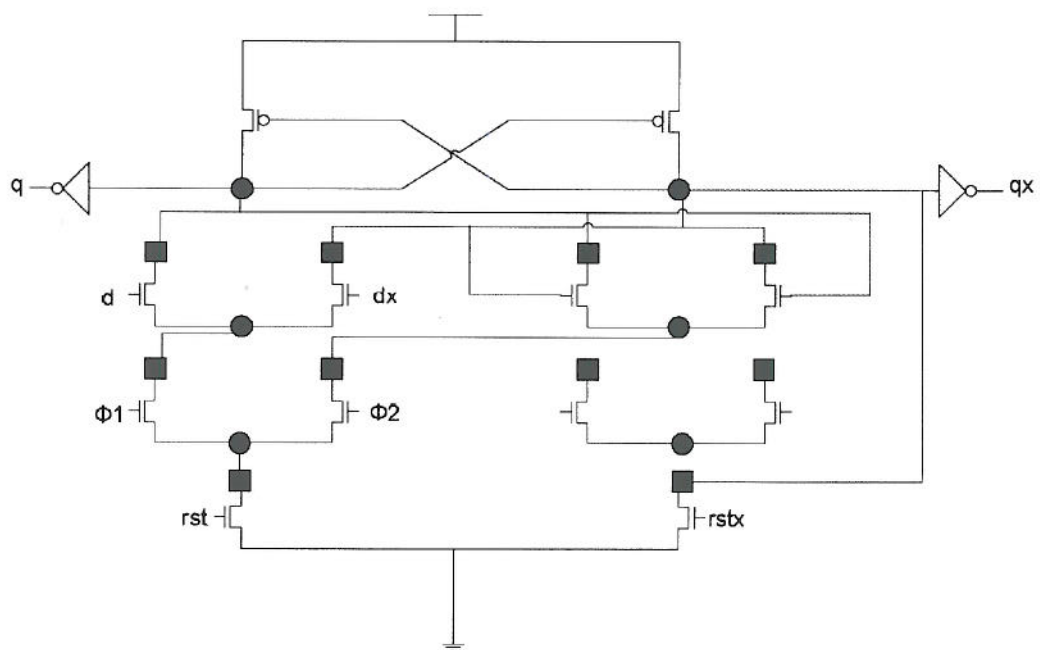

Figure 3.3
c) Explain why the circuit shown in *Figure 3.3* implements a transparent latch? What are the timing constraints necessary for the input signals  $\Phi 1$  and  $\Phi 2$ ?